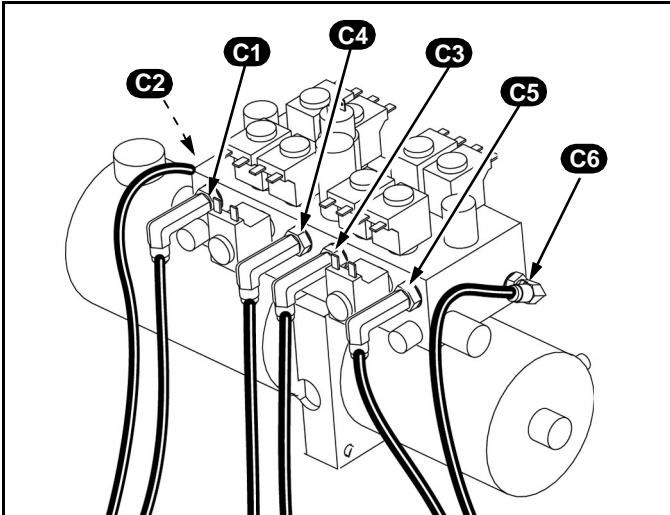
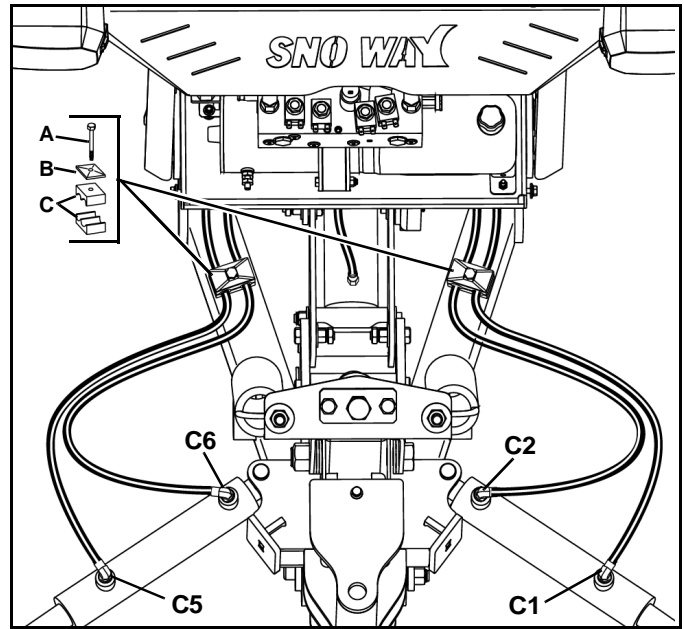

Figure 1-11-View From Rear of Control Valve
Figure 1-12
14. Loosely connect hydraulic hoses to the wing cylinders. (See Figure 1-11 and Figure 1-12).
NOTE: C1 through C6 references are hydraulic ports on the control valve that are marked accordingly. (See Figure 1-11 and Figure 1-12.)